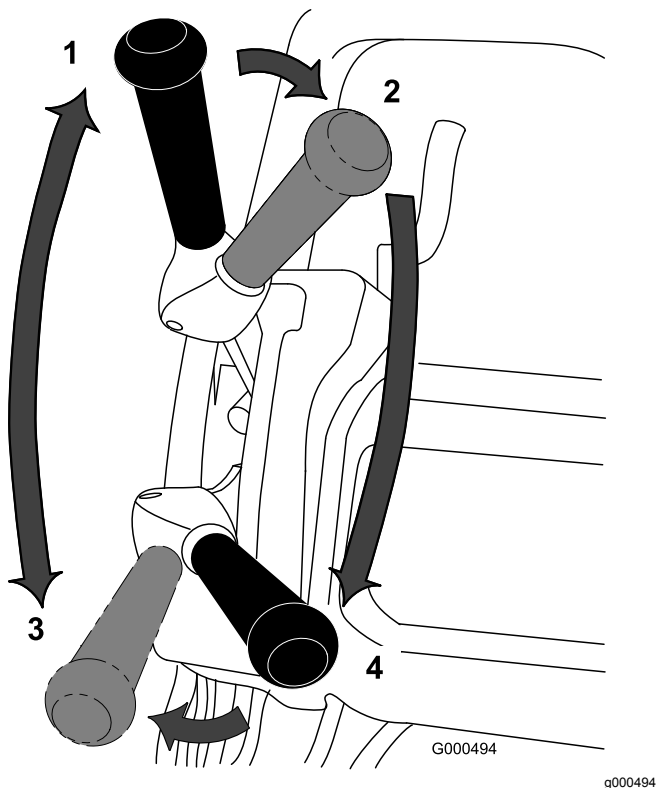

Figure 38
1. Start the engine, set the throttle to a reduced speed, push down on the handle to raise the cutting unit, press the operator-presence control, move the traction and reel-drive engagement lever to the FORWARD (transport) position, and transport the machine onto the collar of the green (Figure 38).
2. Move the lever to the NEUTRAL position (Figure 38).
3. Move the lever to the traction—NEUTRAL and reel drive—DISENGAGE position (Figure 38).
4. Move the lever to the traction—FORWARD and reel drive—ENGAGE position (Figure 38), increase the throttle speed until the machine is traveling at the desired ground speed, drive the machine onto the green, lower the cutting unit to the ground, and begin mowing.